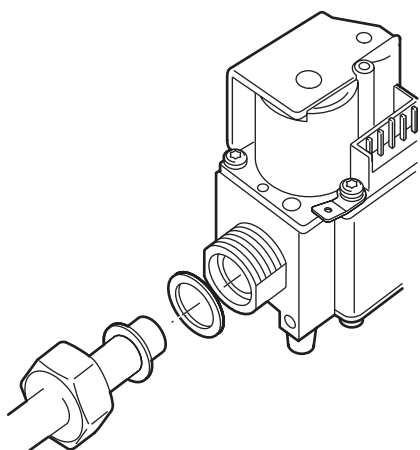

Fig. 6. External thread connection with nut and "O"-ring
- ④ With $\frac{3}{4}$ " nut and "O"-ring (see fig. 6.)